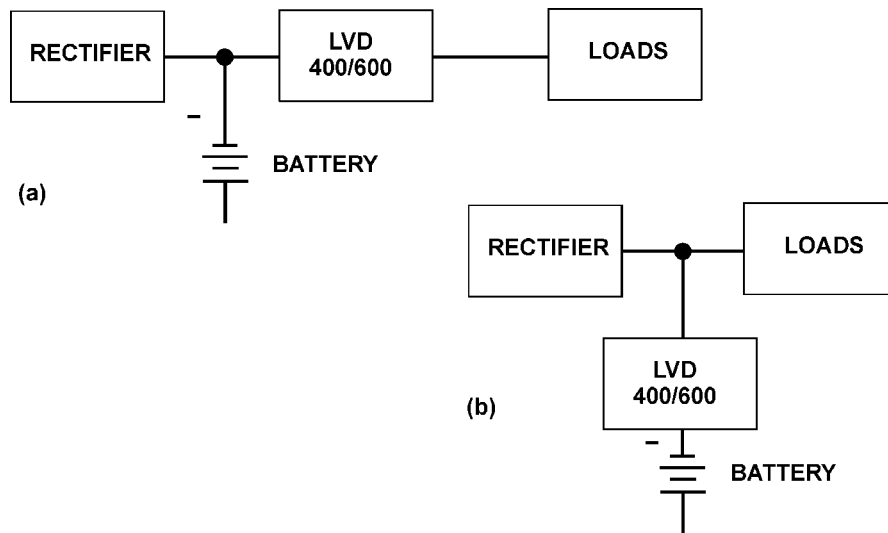

Figure 4. Connections for LVD400/600
11.2 For load disconnect operation, it is connected between the rectifier and loads. See Fig. 4(a).
11.3 For battery disconnect operation, it is connected between the battery and loads. See Fig. 4(b).
- 13.2 Connections.** Power connections should be made to the disconnect bus bars using ¼-inch diameter bolts with nuts. See Figure 4. The Form C relay contact and battery connections are made to the miniature screw terminals. The chassis ground connection is made to the no. 10-32 stud. See Section 12.4. This safety ground connection should be made before operating the panel.